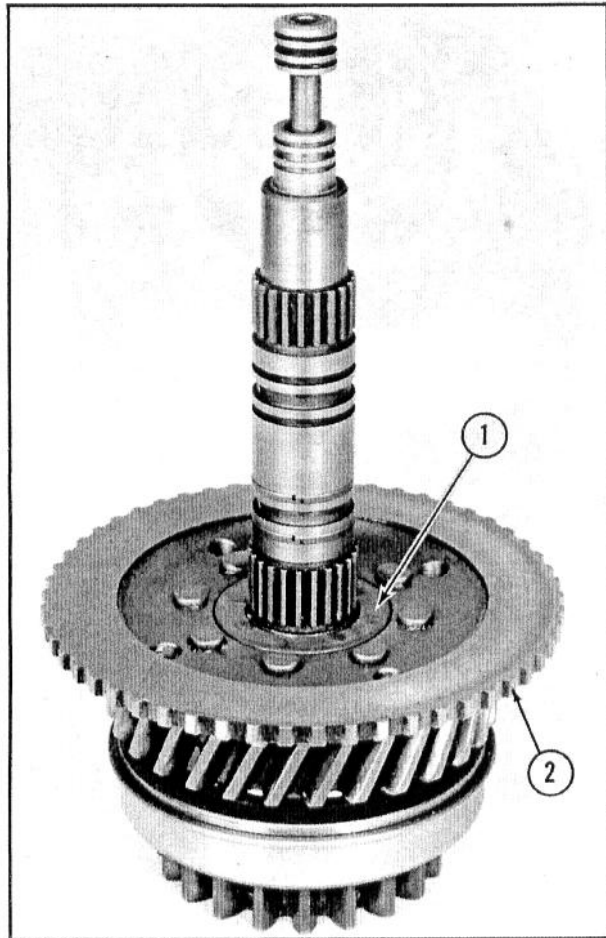

Fig. 40 — Output Gear Assembly Installed
8. Slide the fiber thrust washer and the output gear assembly off the output shaft. See Fig. 40.
6. Position a thrust washer over the output shaft and then install the output gear assembly (with the gear down). Place a second thrust washer down over the output shaft. See Figs. 40 and 41.